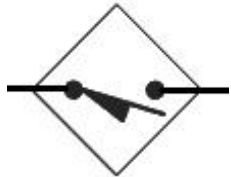

Figure 6-11 Symbol for question 16.
16. Figure 6-11 represents the symbol for a 16. _____